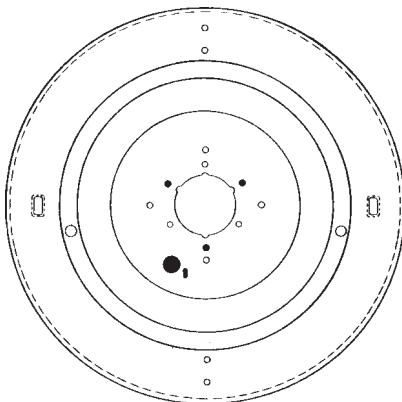
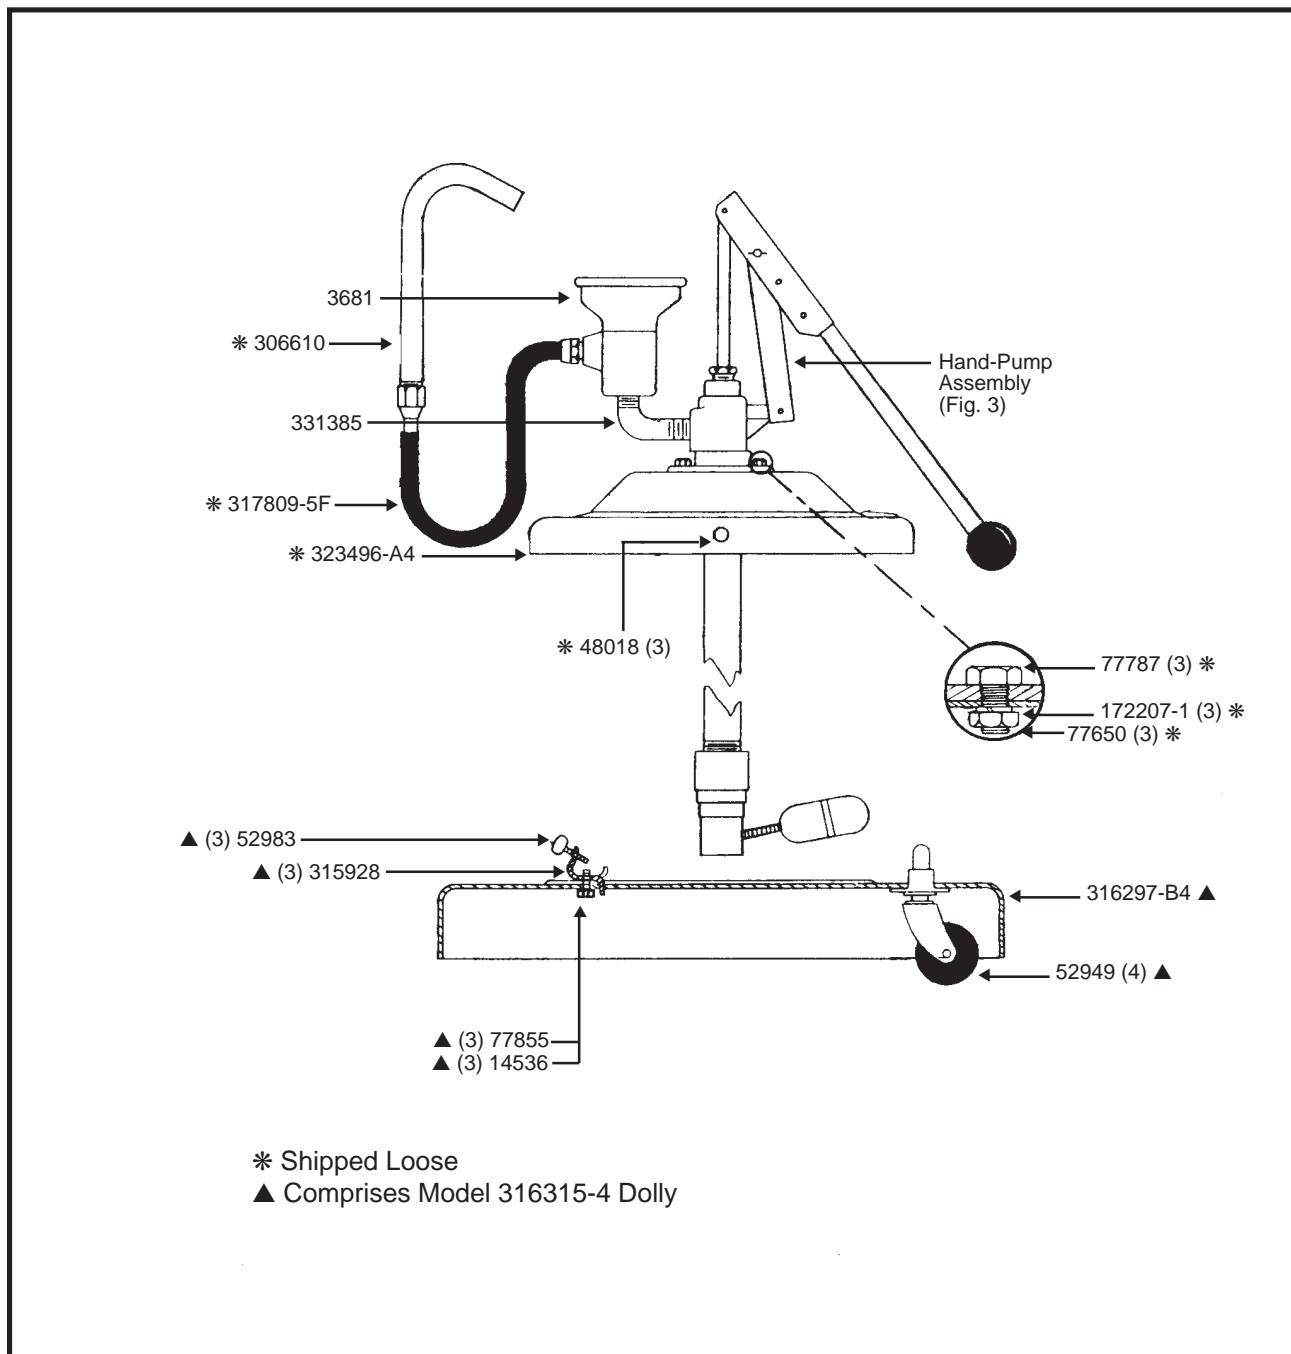

Figure 2: Cover Template for Knockout
Figure 4: Components of Model 8570-4 Hand Pump with 316315-4 Dolly
4. Place cover and seal assembly 323496-A4 topside up on workbench (Fig. 4). Punch out knockout plugs corresponding to blackened holes in Fig. 2.
6. Align all holes and use three hex cap screws 77787, three lockwashers 172207-1 and three hex nuts 77650 to fasten cover and seal assembly to body (Fig. 4).
8. Place drum of lubricant on dolly 316315-4. Adjust and tighten brackets 315928 and tighten thumb screws 52983 securely (Figure 4).
10. Put three thumb screws 48018 into three side holes of cover and seal assembly and tighten so cover is held securely to drum (Fig. 4).
1. Remove hose 317809-5F from gear oil meter 3681 (Fig. 4).
2. Remove meter from elbow 331385 (Fig. 4).
PARTS LIST - Model 8570-4 Automatic Transmission Fluid Pump (Figure 4)
PARTS LIST - Model 316315-4 Dolly (Figure 4)